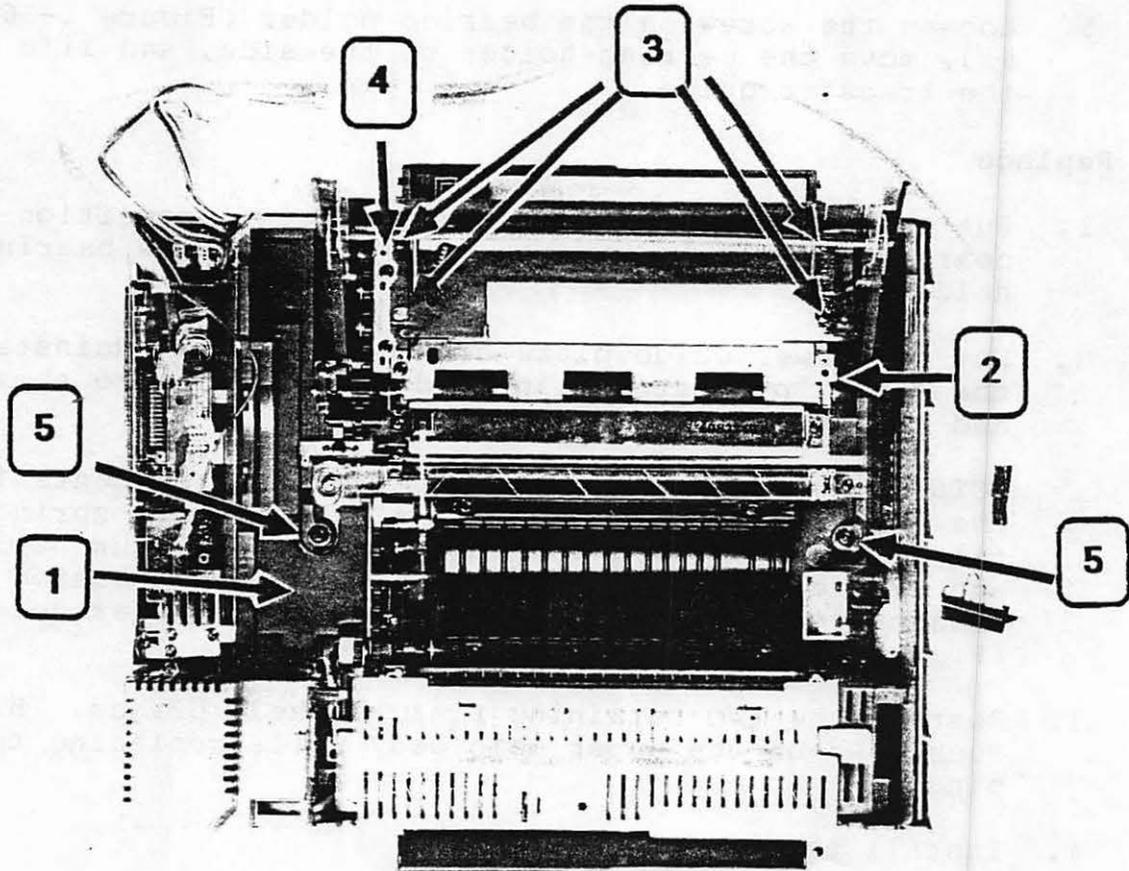

Figure 2-38
2. Remove the harness cover (Figure 2-38, #1).